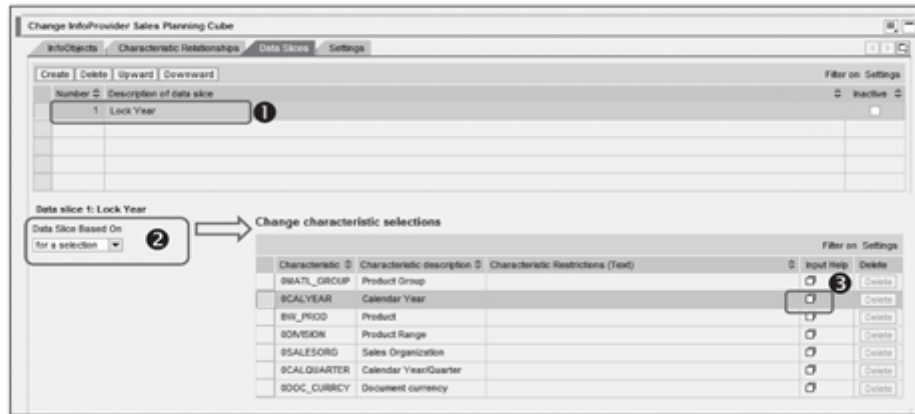

Figure 12.24 Define Data Slice
3. Maintain the description of the data slice, as shown in ❶ of Figure 12.24.
4. In the DATA SLICE BASED ON dropdown list, select FOR A SELECTION (❷ of Figure 12.24). This option allows you to maintain selections for different characteristic values that can be locked. If you want to define a custom and complicated logic for locking the plan data, you can define the data slice based on ABAP exits.
5. In the CHANGE CHARACTERISTIC SELECTIONS section, you can see a list of all characteristics included in the cube. Here is where you specify the selections that need to be locked. For example, if you want to protect the data for Calendar Year = 2009, lock this selection. To do this, select the characteristic OCALYEAR, and click on INPUT HELP (see 3 of Figure 12.24).